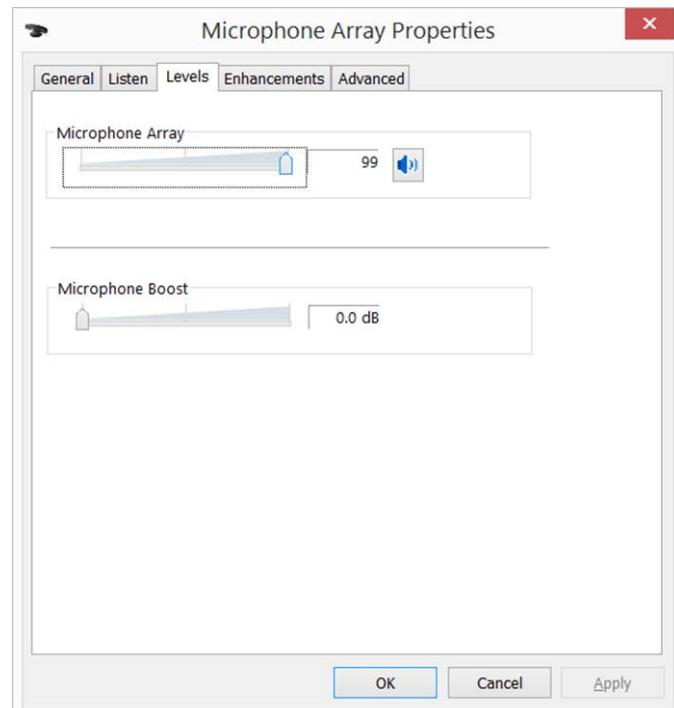

Figure 3-2 Microphone Boost Turned Off
- 13) Turn any boost settings or other special volume settings completely off (for example, set **Microphone Boost**) to 0.0dB). See Figure 3-2 for an example.